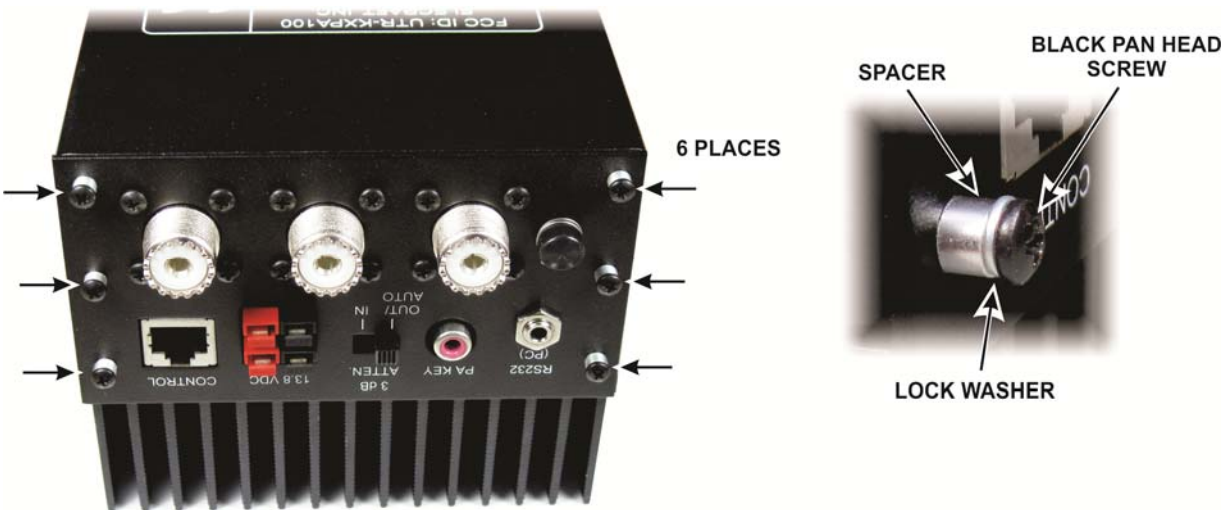

Figure 23. Replacing the Rear Panel.
- Position the rear panel so the Control, 13.8 VDC, PA Key connectors and the 3 dB ATTEN switch pass through the openings in the panel as shown in Figure 23. Tuck the cables to the SO-239 connectors in the space between the circuit board and the cover as needed. A KXPA100 rear panel with the third connector for the ATU is shown. The panel without the ATU fits in the same way except there is one less cable. Secure the panel with six screws, spacers and lock washers as shown.